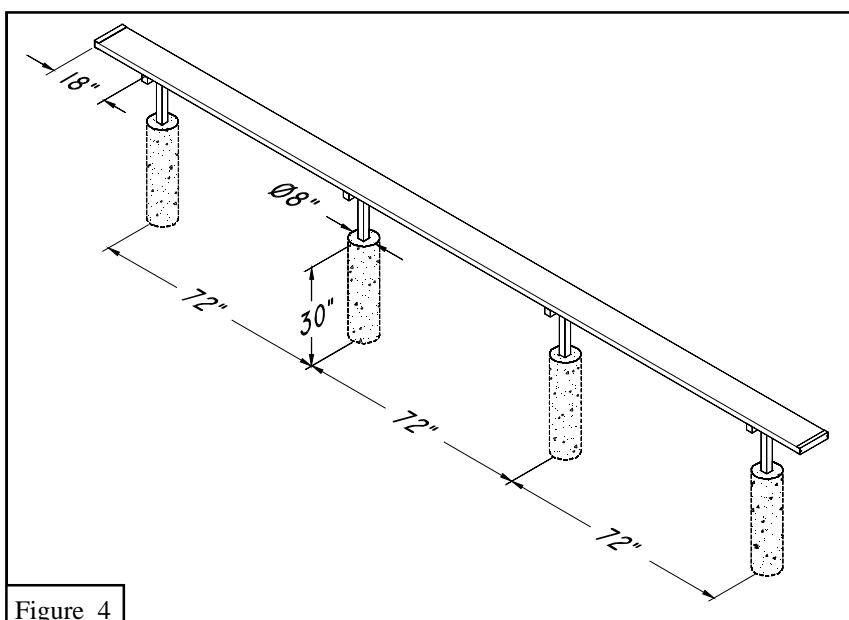

Figure 4
4. Locate and dig four 8'' diameter holes 30'' deep and 72'' apart from center to center. See Figure 4.